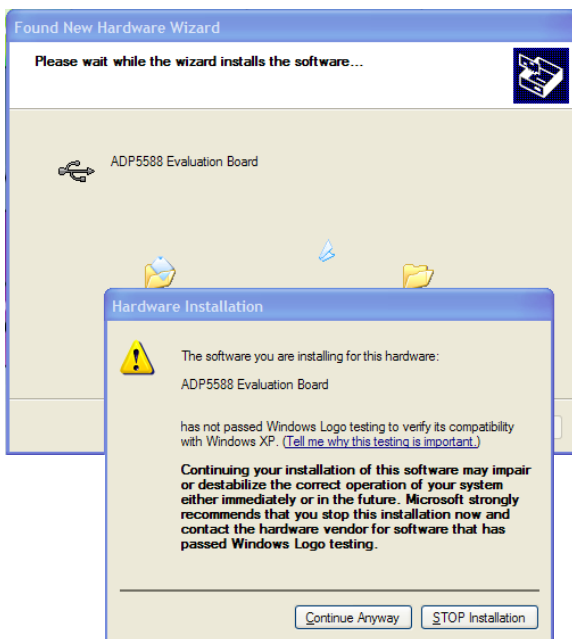

Figure 21. Windows Compatibility Warning
3. When the screen in Figure 21 appears, click **Continue Anyway**; this completes the USB driver installation.